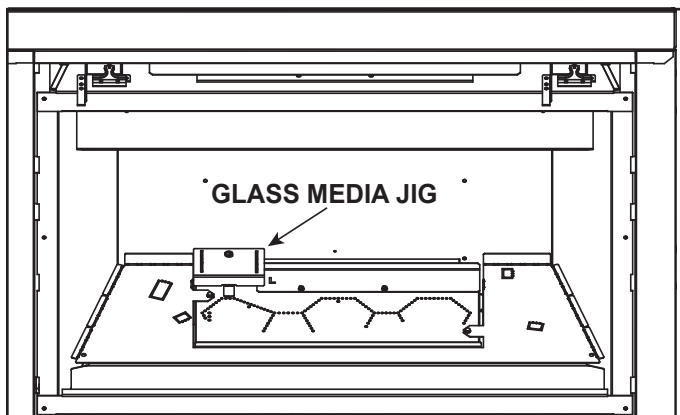

Figure 6. Glass Media Jig Location
10. Place the pilot assembly media jig around the pilot assembly. This rock jig will prevent glass media from being installed directly over the pilot assembly. See Figure 6.